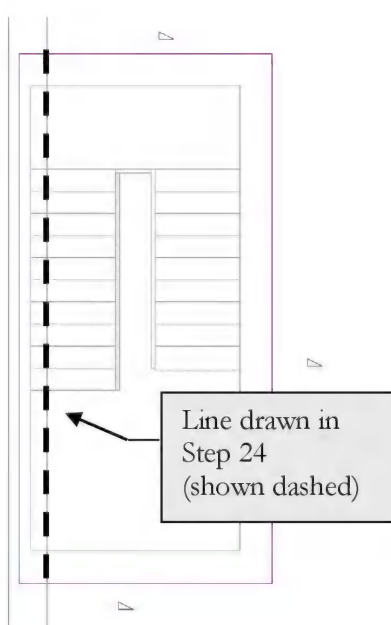

FIGURE 6-1.8 Roof footprint; East stair
24. Uncheck **Defines Slope**, and then select the **Line** tool and draw a line as shown in Figure 6-1.8 to close the footprint. Be sure to use snaps to accurately draw the enclosed area.